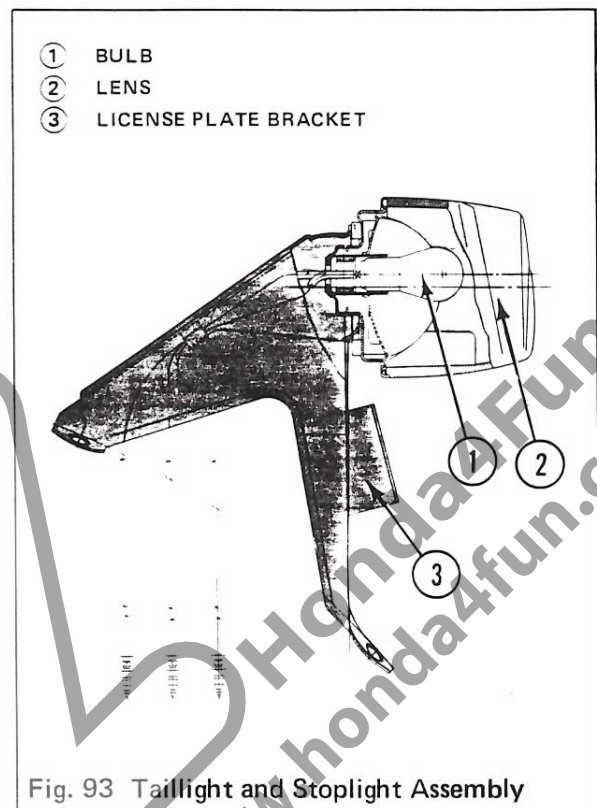

Fig. 93 Taillight and Stoplight Assembly
The taillight on motorcycles intended for street use contains a two-filament bulb ① (Fig. 93). One filament is wired in parallel with the headlight. The other filament is connected to a switch that completes its circuit when the brakes are applied.